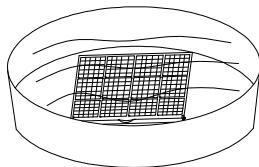

Figure 17
(3). Put the evaporator filter frame, condenser filter frame, evaporator filter mesh, and condenser filter mesh into warm water (about 40°C) to which neutral cleaner is added for cleaning and then dry them in the shade (as shown in Figure 17).